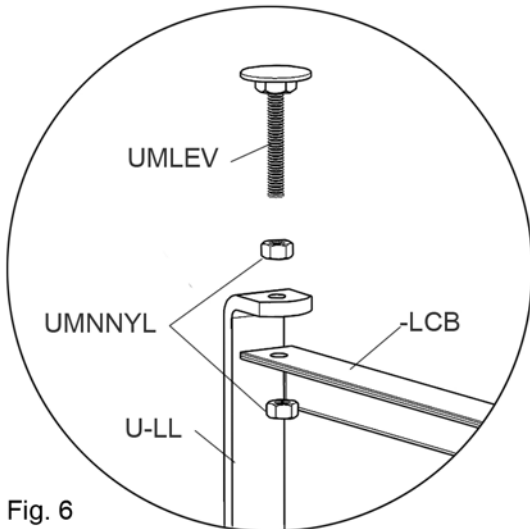

Fig. 6
14. Attach leg connector bar (-LCB) using the adjustable leg levellers (UMLEV) and two nylon insert locknuts (UMNNYL) as shown in figure 6.